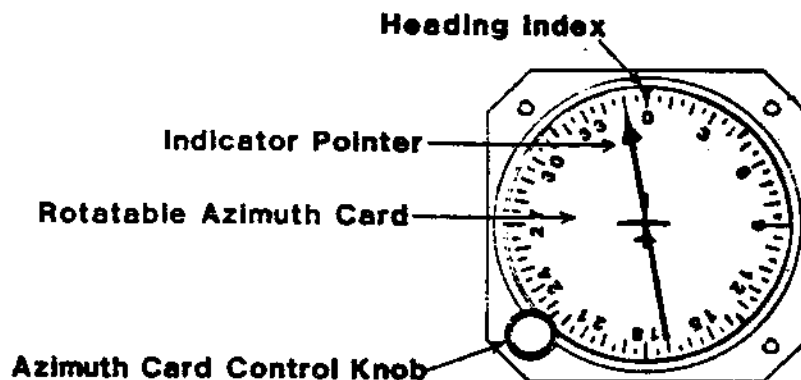

FIGURE 3-2 ADF-841 INDICATOR FRONT PANEL
3.3 ADF-841 INDICATOR DESCRIPTION (refer to Figure 3-2)